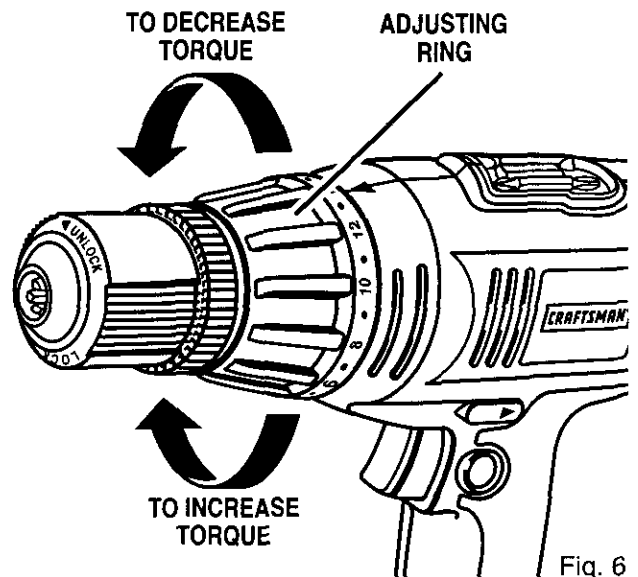

Fig. 6
- Identify the twenty four torque indicator settings located on the front of your drill. See Figure 6.